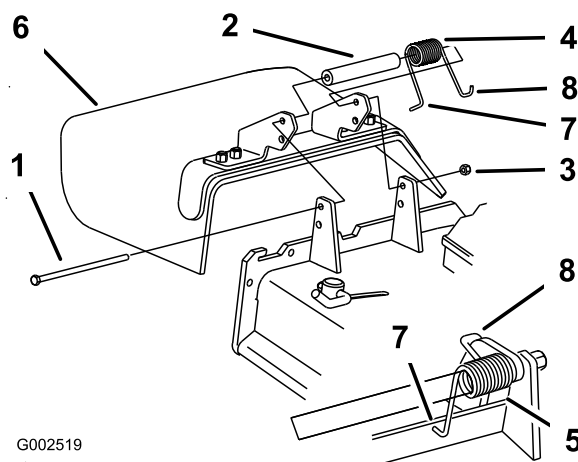

Figure 15
1. Remove the side discharge chute from the mower deck (Figure 15).